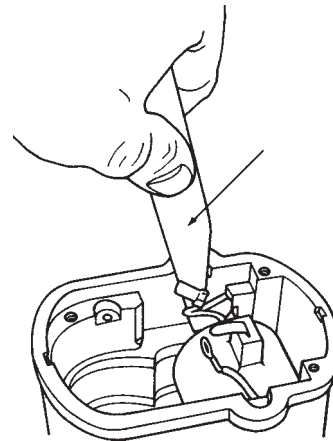

Figure 6.10
- C. Using coil wedge extractor T-122, remove coil wedges and lift out coil. (See Figure 6.10.)